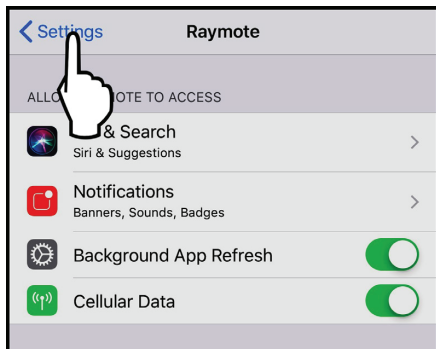

Figure 92. Select "Settings" Menu
- On the top left corner of the screen, press the "Settings" button to go the Settings menu. See **Figure 92**.